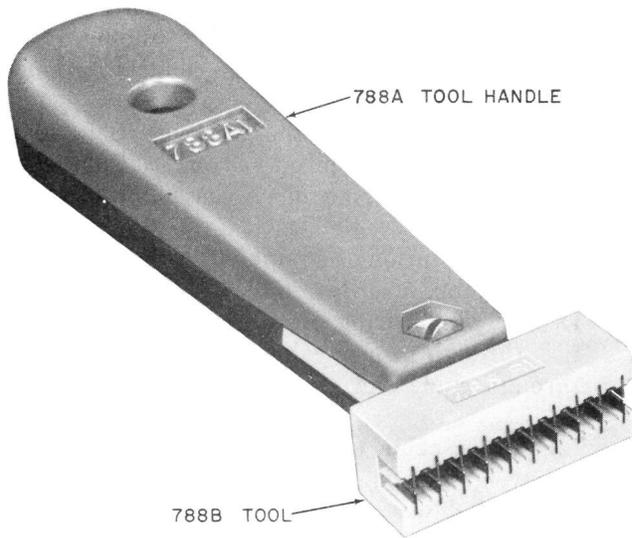

Fig. 10—5-Pair Insertion Tool
2.15 The 5-pair insertion tool (Fig. 10) consists of the ◆788B2◆ tool head mounted in the 788A1 tool handle. The tool head is used to seat five cable pairs at one time or to insert 3- or 5-pair connecting blocks on the index strip of the wiring block.